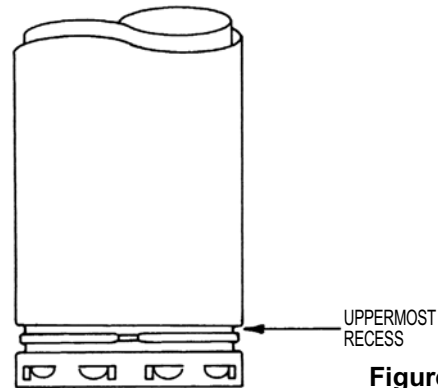

Figure 12
- The circular cutout in the Round Support Plate is designed to engage the uppermost recess in the female end of the Vent Pipe. See **Figure 12**.